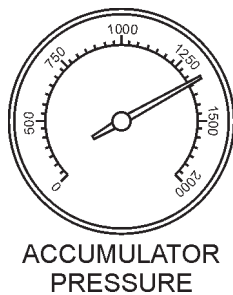

Figure 30. Accumulator Pressure Gauge
5. The **Accumulator Pressure Gauge** (Figure 30) should read approximately 1750 pounds per square inch (psi).